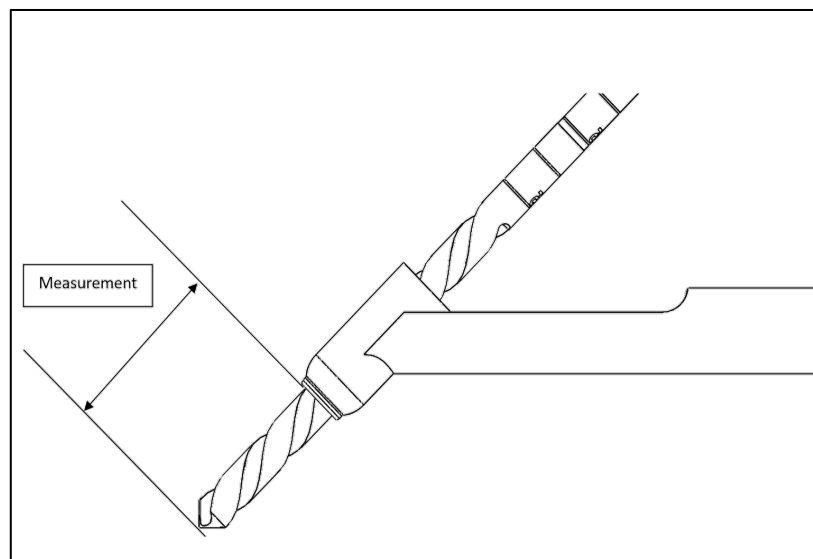

Figure 20: Short Side of **Non-Locking Drill Guide Measurements** with 200mm Drill
- **Note:** All Ø4.3mm drills are calibrated in length relative to the short side of the **Non-Locking Drill Guide**. If using the **200mm drill** with the short side of the **Non-Locking Drill Guide**, the markings on the drill represent the effective drill depth (without subtracting 20mm). (Figure 20)